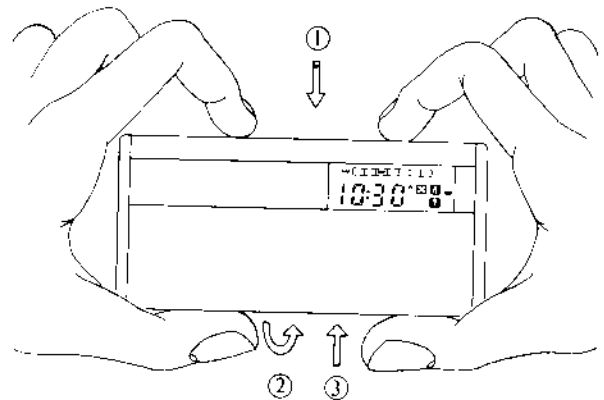

Figure 20. Removal of front unit for replacing battery or servicing after installation.
2. Remove front unit as illustrated in figure 20.